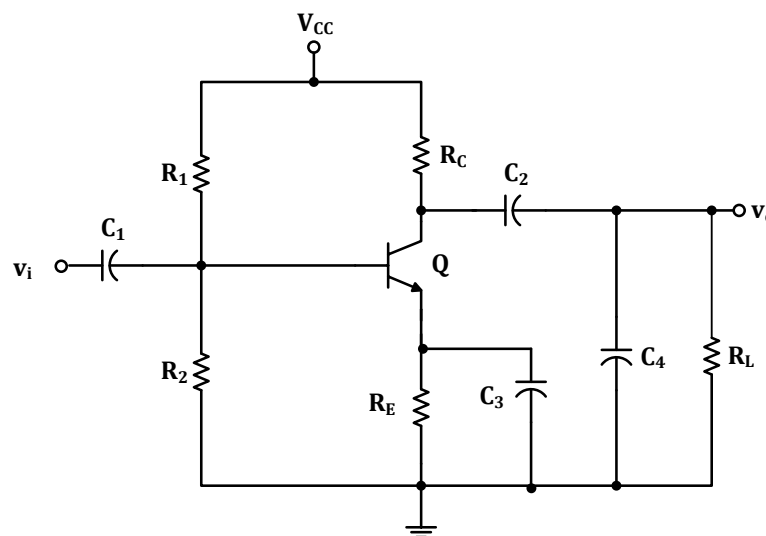

Figure 1.2
B) Design layout of small signal amplifier circuit as shown in Figure 1.2 using KiCAD. Refer to instruction file (Instruction for BJT Amplifier PCB Layout Design using KiCAD). Print the PCB layouts on A4 paper and show it to your supervisor for verification purpose.